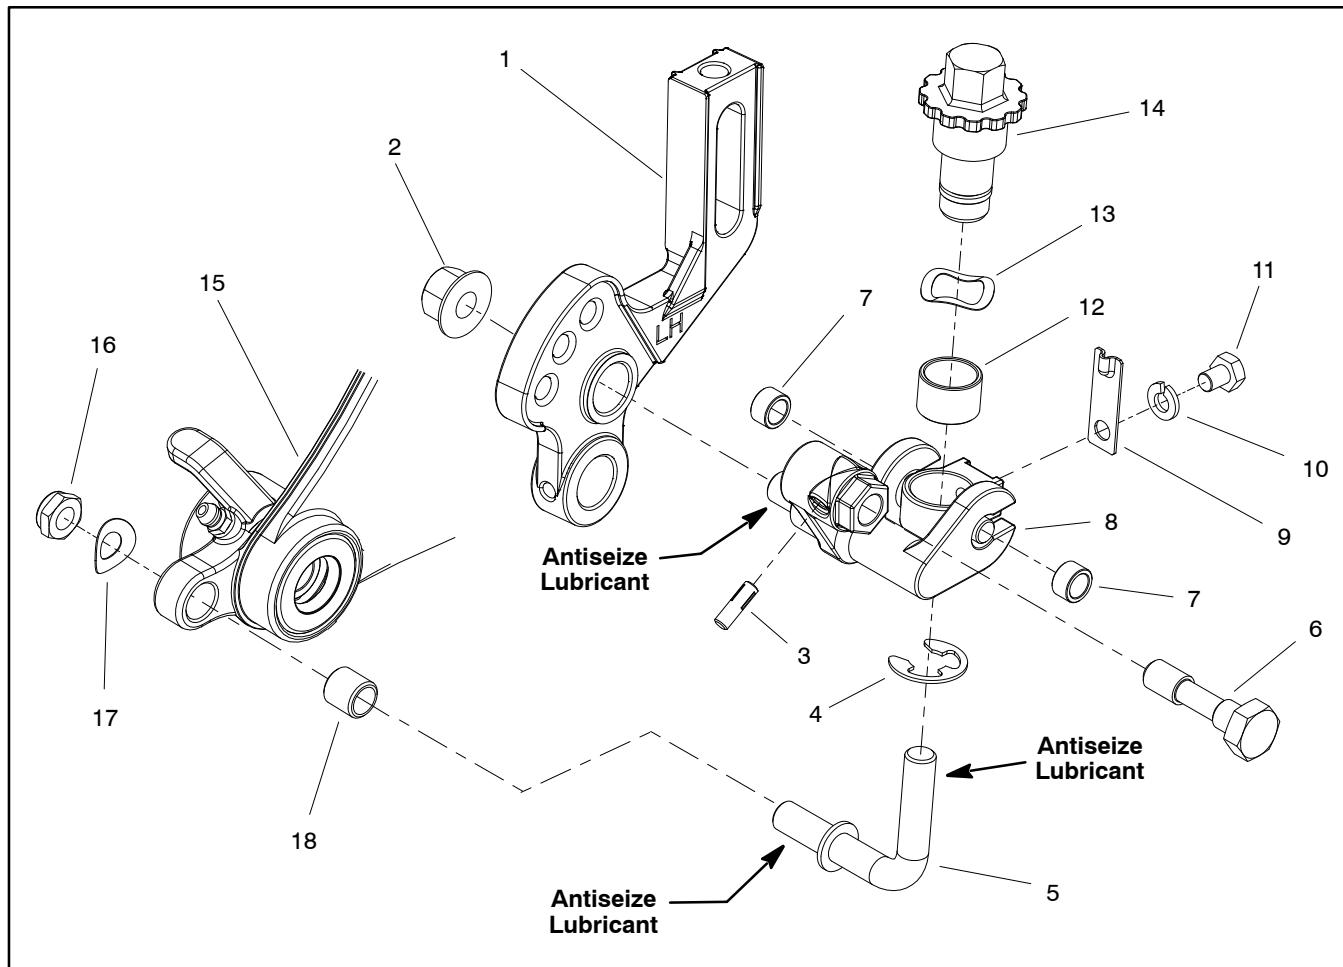

Figure 30
Disassembly (Fig. 30)
1. Remove flange nut (item 2) that secures lift arm to HOC groomer arm. Remove lock nut (item 16) and spring washer (item 17) that secure lift arm to side plate. Loosen lock screw (item 6) completely.
2. Remove flange nut (item 2) that secures lift arm assembly to HOC groomer arm. Remove lock nut (item 16) and spring washer (item 17) that secure lift arm assembly to side plate. Loosen lock screw (item 6) completely.
4. Disassemble lift arm using Figure 30 as a guide.
NOTE: Right and left side HOC groomer arms (item 1) and lift arm assemblies (item 8) are different; other components shown in Figure 30 are the same on both sides of cutting unit.
Assembly (Fig. 30)
1. Assemble lift arm using Figure 30 as a guide.
2. Apply antiseize lubricant to threads of groomer lift rod (item 5) and lift arm assembly stud (item 8).
3. Install lift arm assembly onto cutting unit. Secure with flange nut (item 2) and lock nut (item 16) with spring washer (item 17).
4. Secure groomer in raised or lowered position with lock screw (item 6).